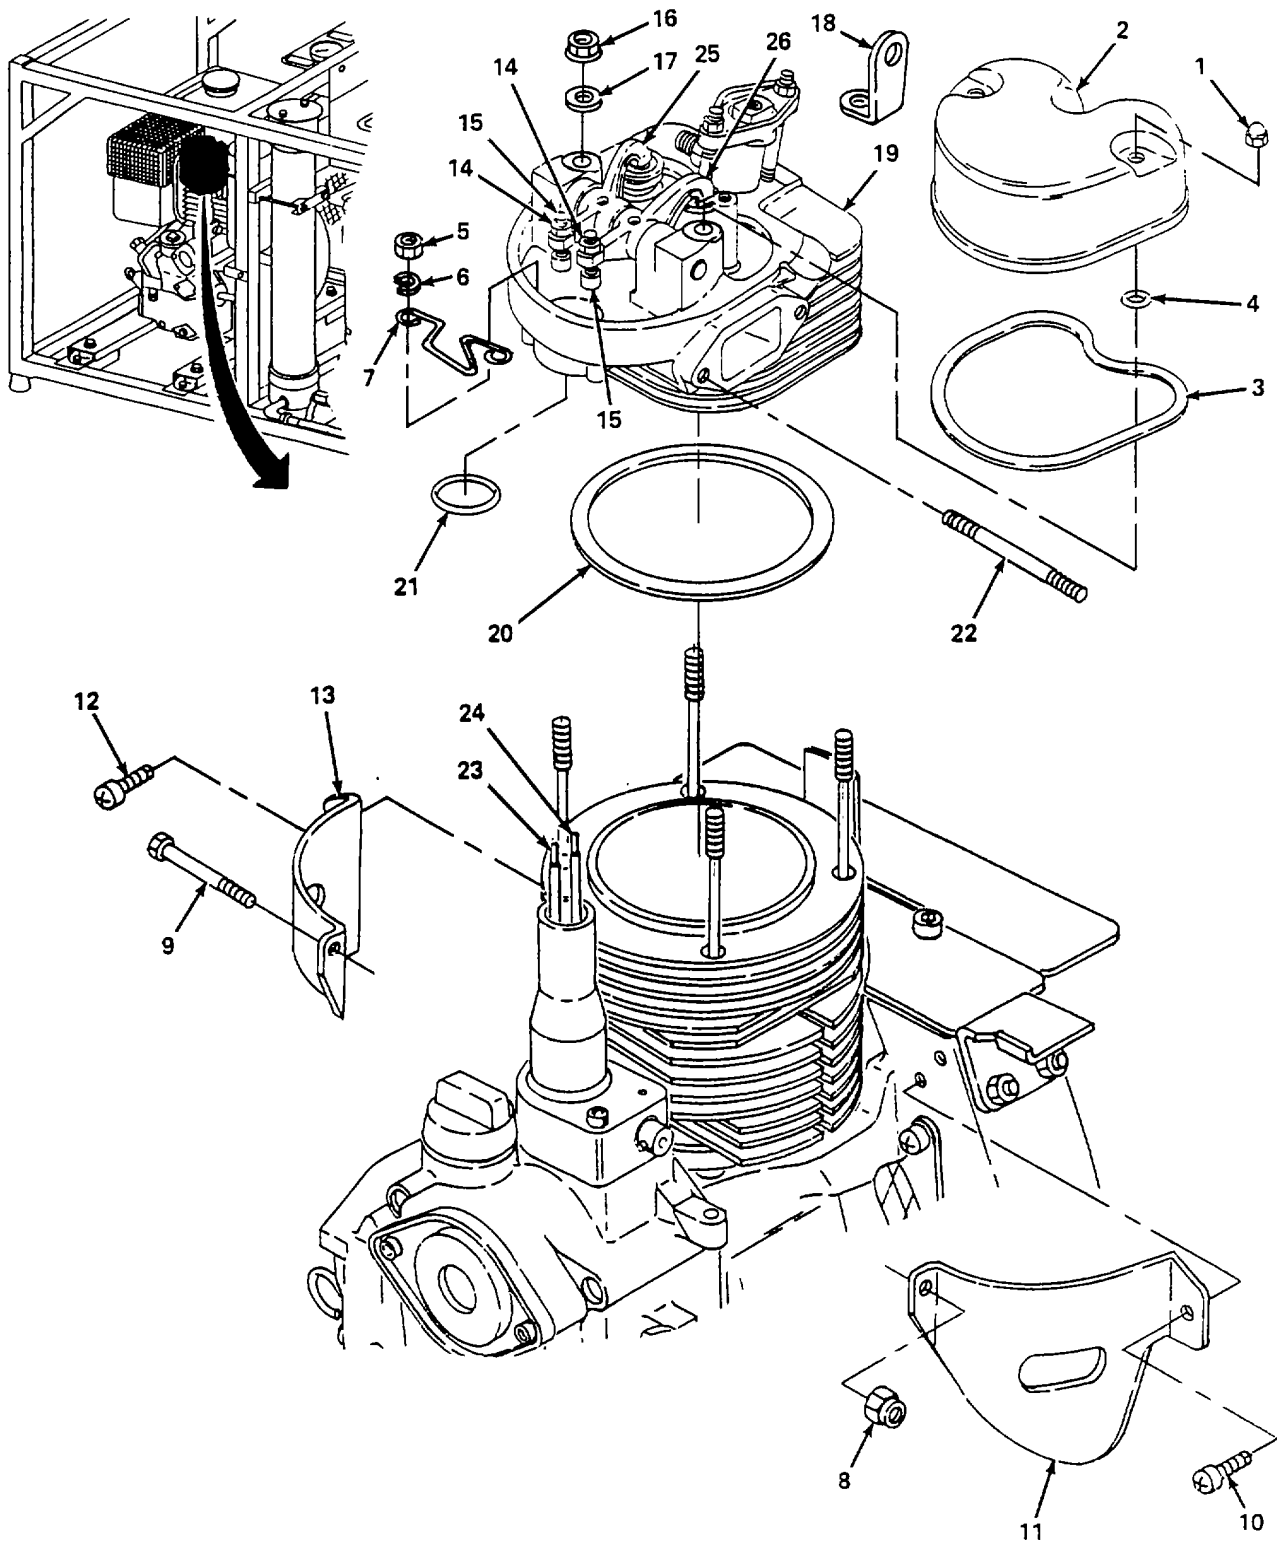

Figure 5-42. Cylinder Head Assembly, Replace.
- b. Replace. (figure 5-42)
- (1) Remove two nuts (1) and remove valve cover (2), gasket (3), and two preformed packings (4). Discard preformed packing (4).
- (2) Remove two nuts (5) and washer (6) and remove spring (7).
- (3) Remove nut (8) and screw (9).
- (4) Remove screw (10) and air shield (11).
- (5) Remove screw (12) and air shield (13).
- (6) Loosen two nuts (14) and unscrew adjusters (15) part way.
- (7) Remove four nuts (16), washers (17), and bracket (18) and remove cylinder head (19), gasket (20), and preformed packing (21). Discard preformed packing (21).
- (8) Remove four studs (22).
- (9) Install four studs (22).
- (10) Ensure all gasket surfaces are clean and free of old gasket material.